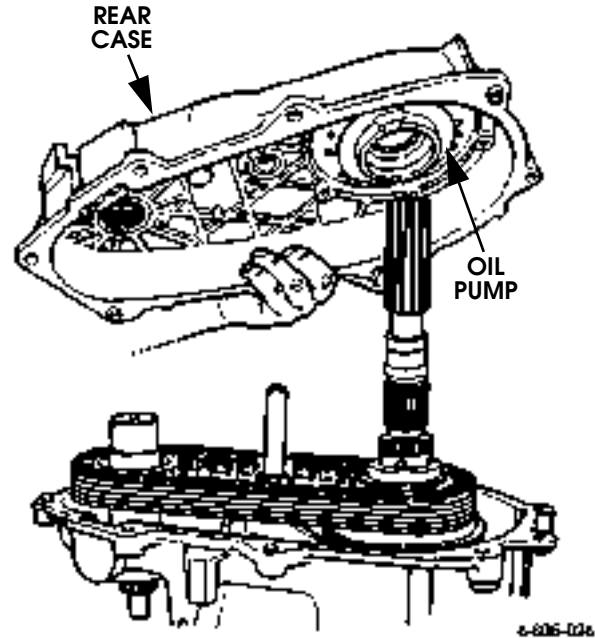

Figure 5-88: Rear Case Removal
8. Remove rear case attaching bolts and remove rear case (Figure 5-88).